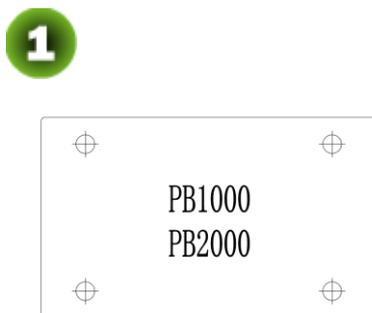

Figure 2-3A
- 1) Use positioning soft tapes to mark the installation position of the chassis, as shown in Figure 2-3A.